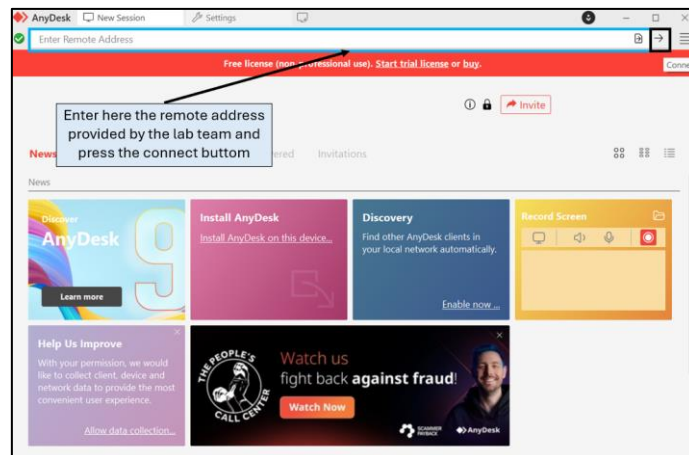

Figure 17: Access to the digital twin of the 3D printer
1. To access the digital twin, enter the remote address (ID number) provided by the lab team in the upper text box of AnyDesk (highlighted in blue in the Figure 17).